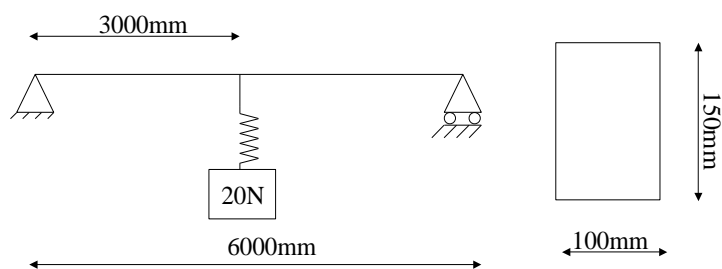

Fig 1
2. Calculate the natural frequency of the system shown in fig1. The mass of the beam is negligible in comparison to the suspended mass. $E = 2 \times 10^5 \text{ N/mm}^2$.